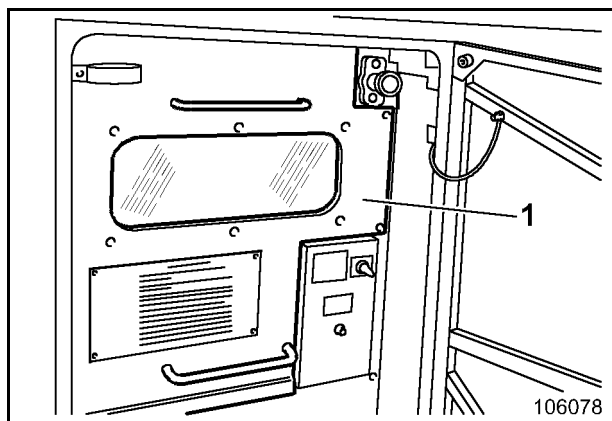

Fig. 4-1:
- Remove the cover (1, Fig. 4-1:).